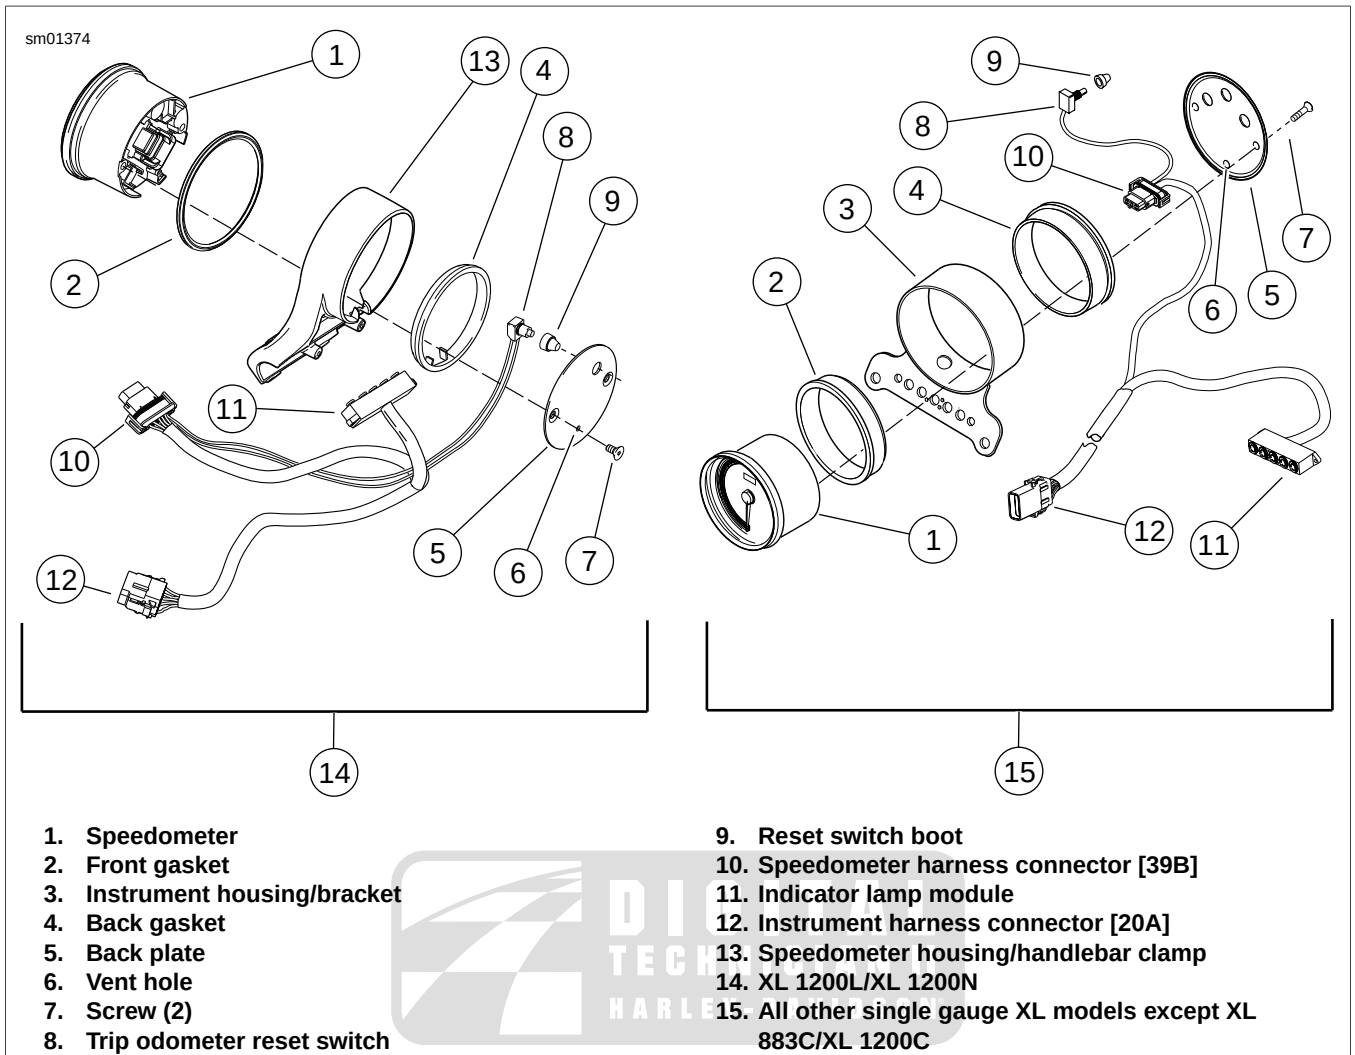

Figure 6-17. Speedometer Components: XL Single Gauge Models Except XL 883C/XL 1200C
2. See Figure 6-17. Remove reset switch boot (9) from trip odometer reset switch (8) on speedometer housing back plate (5).
3. Remove two screws (7) and back plate.
4. Unplug speedometer socket connector [39B] (10) from back of speedometer.
5. Gently push out speedometer (1) and front gasket (2).
6. Inspect front (2) and back (4) gaskets, speedometer connector [39] and wiring, trip odometer reset switch and wiring and reset switch boot. Repair or replace as required.
2. See Figure 6-17. Install front gasket (2) on speedometer (1).
3. Threading speedometer harness and connector [39B] through back gasket (4), install matching tabs of gasket to locating keys in instrument housing/bracket (3).